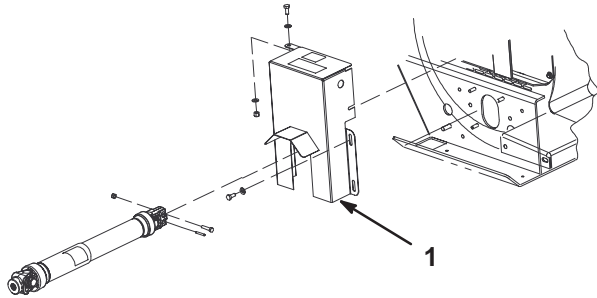

Figure 11
1. Remove the 3 capscrews, 6 washers, and 3 nuts securing the belt guard to the blower housing (Fig. 11). Remove the guard.